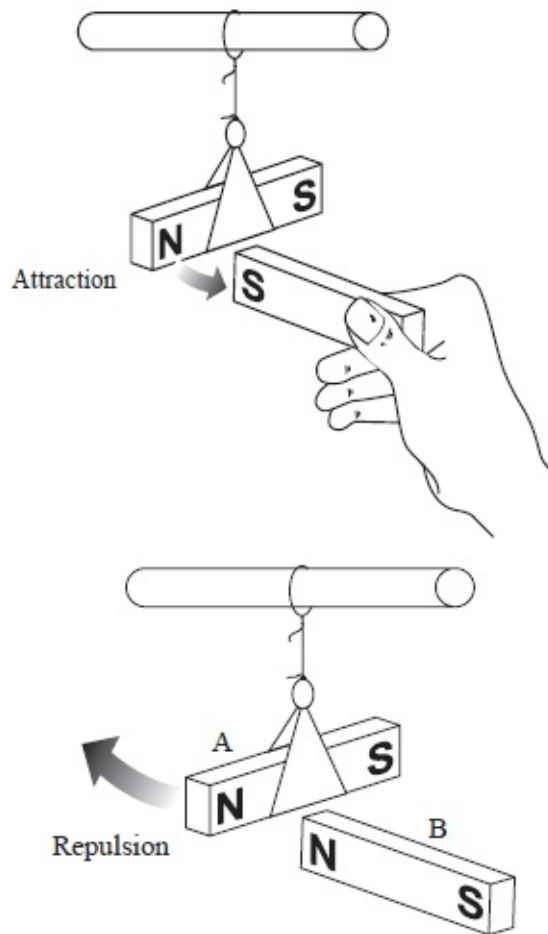

Fig. 3.13 (a): Attraction and repulsion forces of a magnet
- Suspend a bar magnet as shown in figure 3.13.